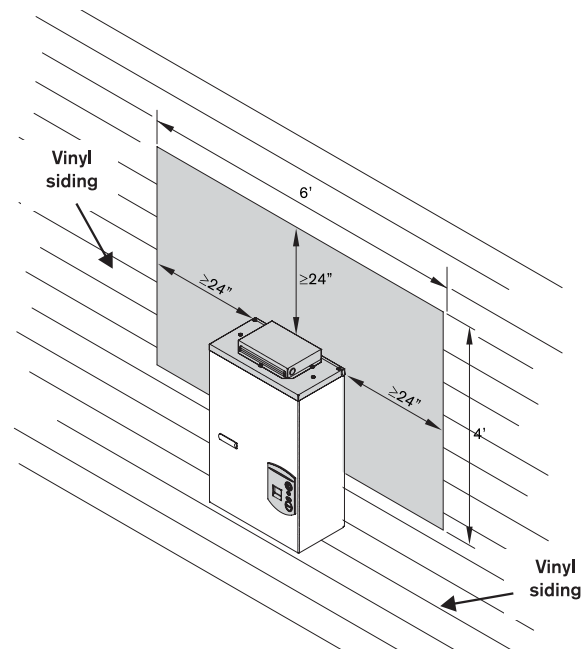

Fig. 10
The 250 SXO is design certified for installation directly on a combustible wall. (see 2.7 Mounting installation) For installation on vinyl siding see Fig. 10. Keep the area below the heater free of combustible material.
**Warning:** Do not mount heater directly to vinyl siding. With vinyl siding surfacing, a 6' x 4' area of the siding must first be removed and then replaced with wood or other non-plastic made material. See Fig. 10.